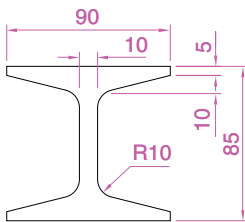

Fig. 18.16 Exercise I – the outline from which the surface model is formed
1. In the UCS ***WORLD*** construct the polyline outline as shown in Fig. 18.16.